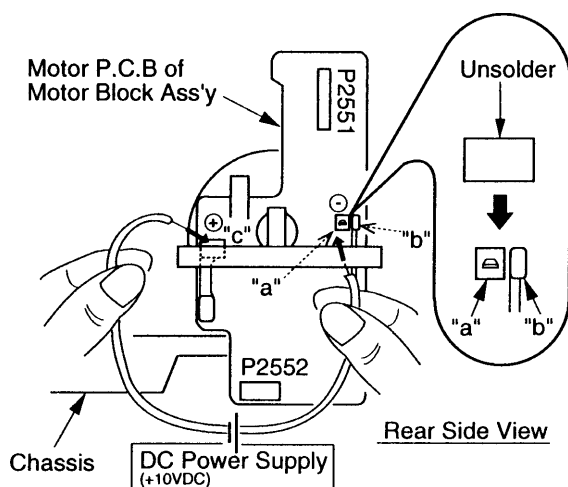
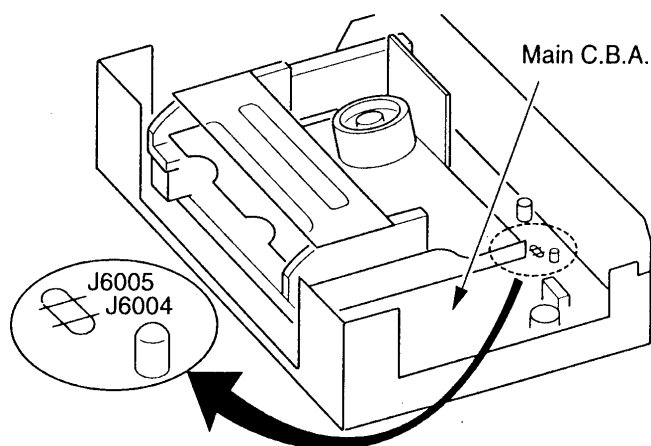

Fig 17 - Electrical Method (1)
Fig 18 - Electrical Method (2)
**Note:** If loading does not start within approximately two (2) seconds after DC power is applied, **DO NOT** continue to apply DC power. Perform the manual procedure for removing a jammed tape.
1. Remove the solder as shown in Fig. 17 and connect the positive lead of a 10.0VDC power supply to point (c). Connect the negative lead of the power supply to point (a).
*Electrical Method (2)*
1. Locate the jumper (J6004) on the system control section of the Main circuit board and cut it near the center (Fig. 18).